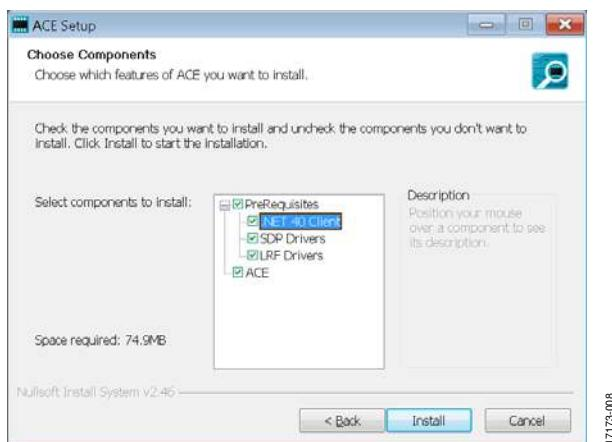

Figure 8. Required Drivers to Install with **ACE**
3. Install the latest version of the **ACE** software. During the installation, ensure that the SDP, LRF, and .Net driver installations are checked as well (see Figure 8).